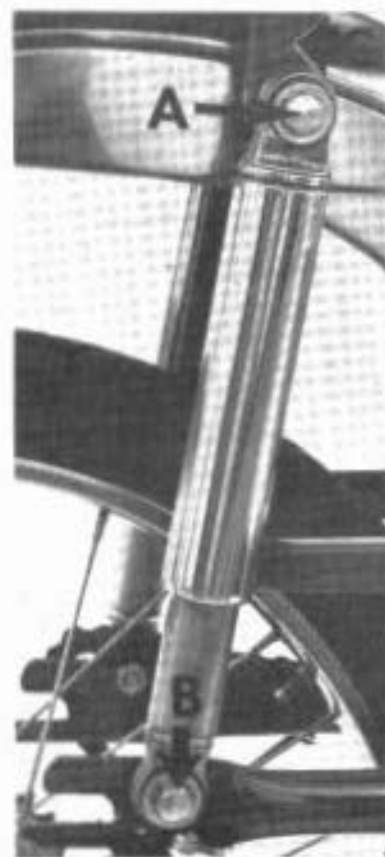

Fig. 42-1
**NOTE:** The rear shock absorbers are retained by bolts and nuts at the top and bottom of each unit. See Fig. 42-1 "A" and "B".
The upper bolt assembly passes through a hole in the frame bracket "C" and is locked with its nut at point "A" Fig. 42-1.